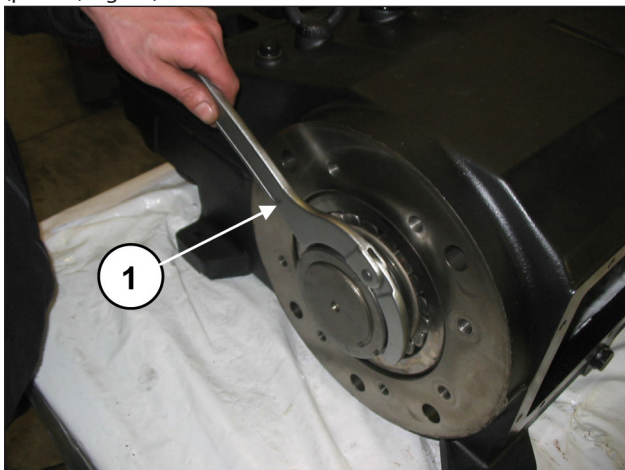
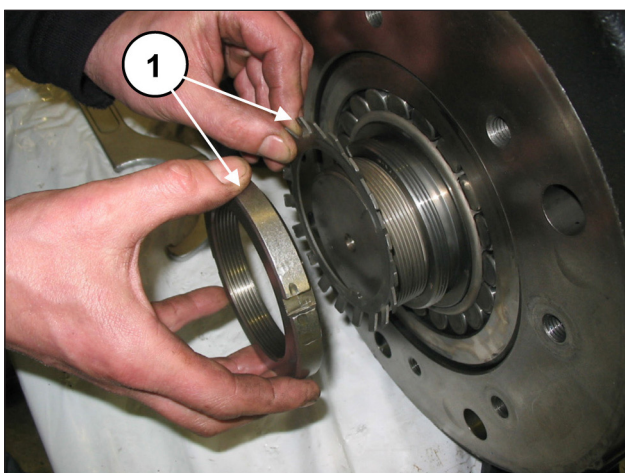

Fig. 17
Fig. 18
Using a suitable wrench, unscrew the locking ring nut (pos. ①, Fig. 17) then remove the ring nut and the safety washer (pos. ①, Fig. 18).